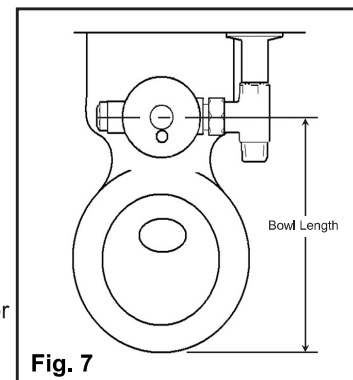

Fig. 7
- The bowl length is the distance from the centre line of the valve to the lip of the bowl (see Figure 7).